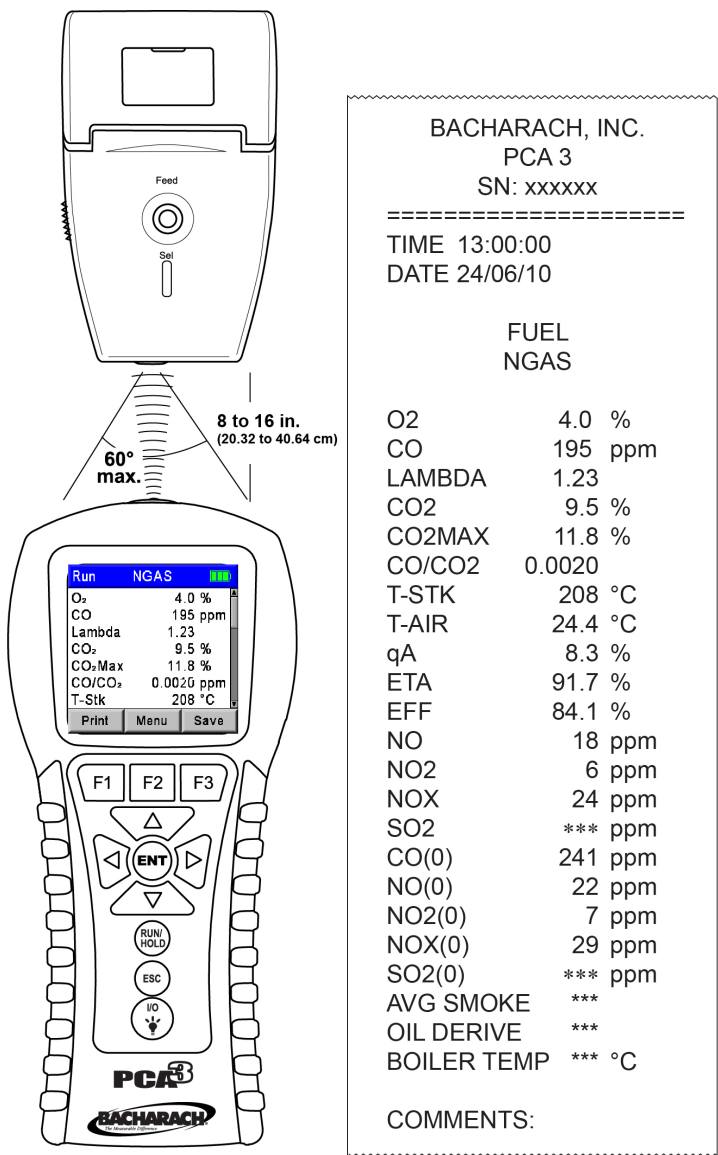

Figure 5-23. Printer Alignment and Sample Printout
2. Align the printer with the top of the analyzer as shown in Figure 5-23.
The printout shown in Figure 5-23 shows typical combustion test results of an analyzer containing O2, COLOW, NO, and NO2 sensors. Note that since the SO2 sensor is not installed, three stars (\* \* \*) appear in their data fields.